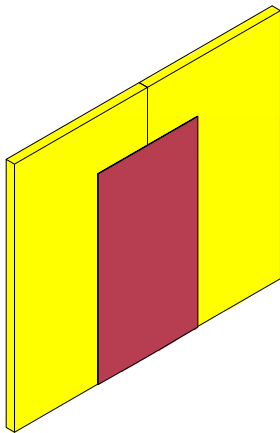

Figure 18
1. Prime the joint area with a generous amount of primer, out 2 to 5 inches on each side, with Flashing Primer. Allow to dry until tacky. (See Figure 18)